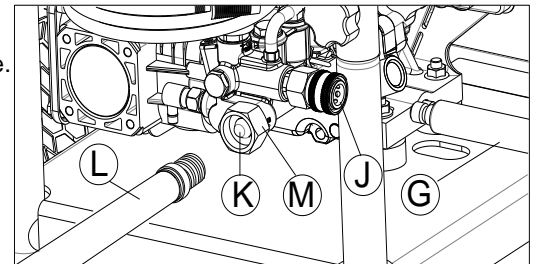

Fig. 8
2. Similarly, attach other end of high-pressure hose (G) to high-pressure outlet (J) on pump. Pull down on collar of quick-connect, slide onto pump and let go of collar. Pull on hose to be sure of tight connection. (See Fig. 8)
1. Inspect garden hose inlet screen (K) for damage. (See Fig. 8)
2. Run cold water through garden hose (L) for 30 seconds to clean out any debris. Garden hose length must not exceed 50 ft. (15 m). Turn off water supply and attach garden hose to water hose inlet (M). Tighten by hand. (See Fig. 8)